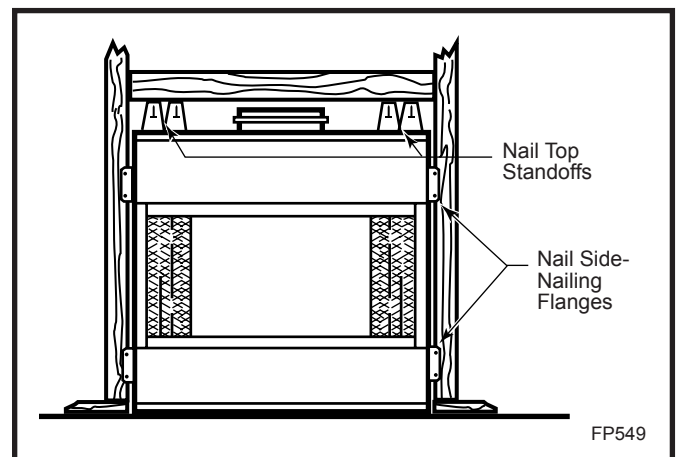

Fig. 16 Fasten fireplace in position.
Four (4) nailing flanges are incorporated on each corner of the surround. Bend the nailing flanges out, level the box, then secure it firmly in place by nailing the flanges to the framing members as shown in Figure 16.